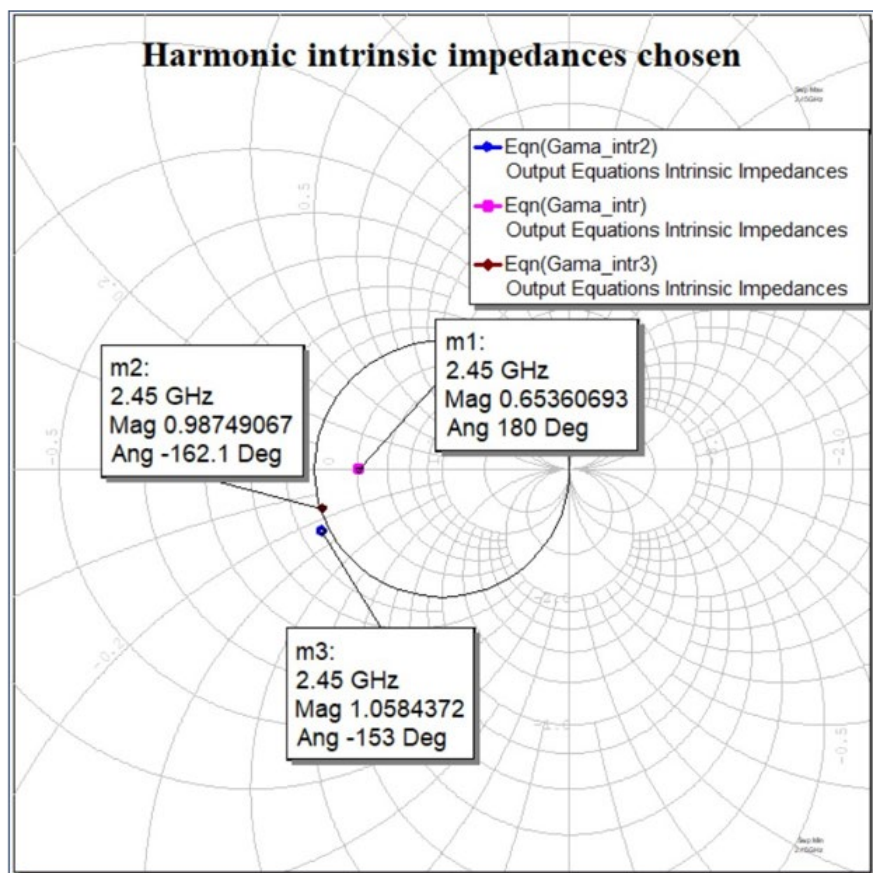
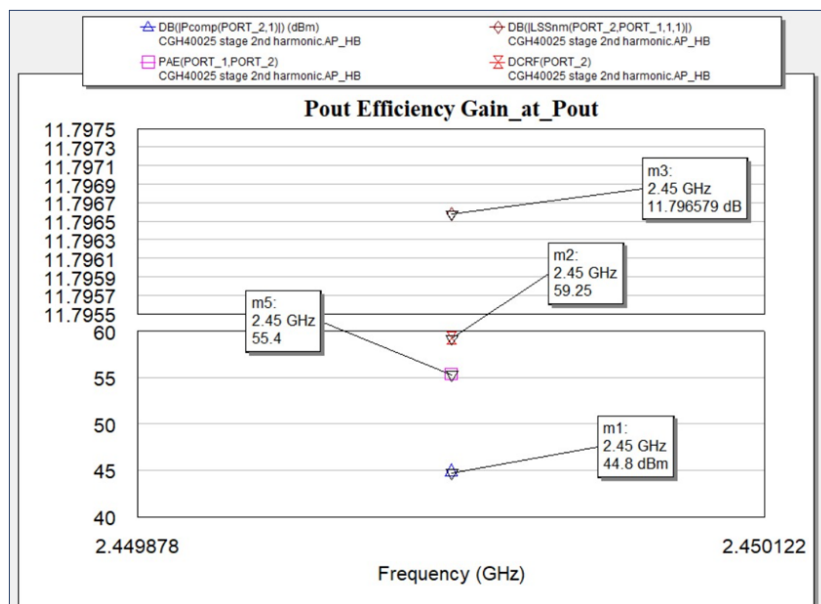

Figure 16
Figure 17
13. Move the harmonics intrinsic loads from being a short circuit (Class-B mode) to the middle of the dense section – Figure 16. Notice that the power and efficiency somewhat improve – Figure 17.